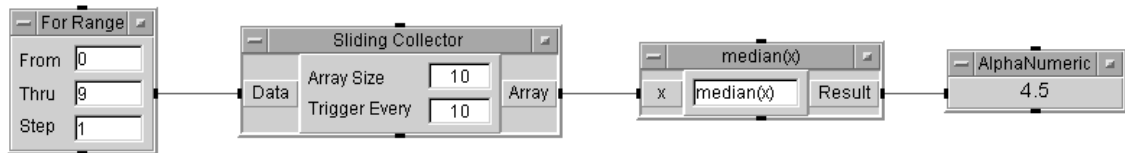

Figure 55 Connecting Data Objects
- 5 Add an AlphaNumeric object, by selecting **Display** ⇒ **AlphaNumeric**. Connect the objects as shown in Figure 55. Run the program. If you have not changed any of the inputs on the objects, you should see the result displayed in Figure 55.